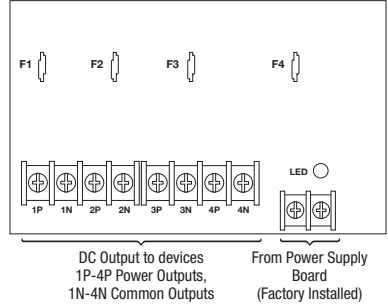

Fig. 3a - PD8UL Power Distribution Board
- b. For other Power Distribution Models: connect devices to be powered to terminal pairs 1 to 4 marked [1P & 1N] through [4P & 4N] (*Fig. 2a & 2b, pg. 7*) or 1 to 8 marked [1P & 1N] through [8P & 8N] (*Fig. 3a & 3b, pg. 7*), carefully observing correct polarity.